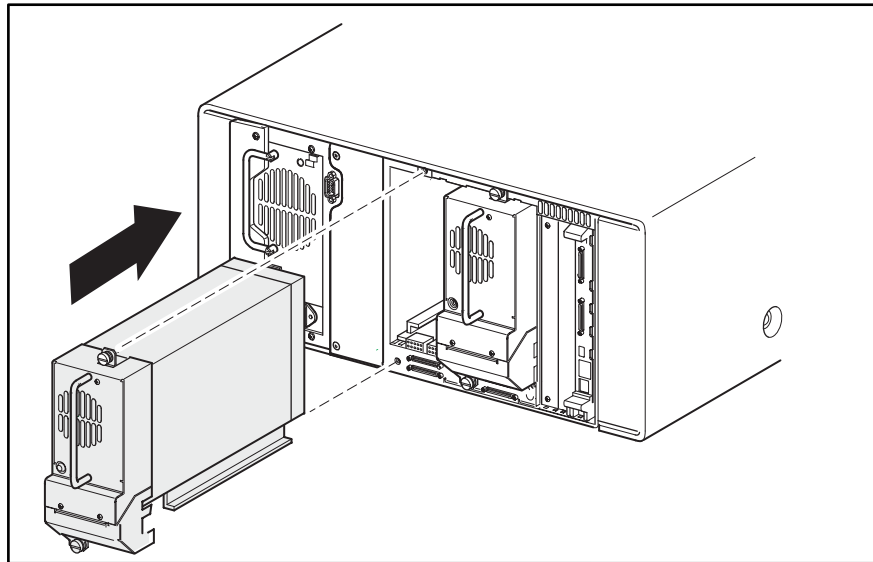

Figure 2-14: Removing a drive shoe assembly (with tape drive)
4. Completely loosen the captive retaining screws at the top center and lower left of the drive shoe assembly (see Figure 2-14).